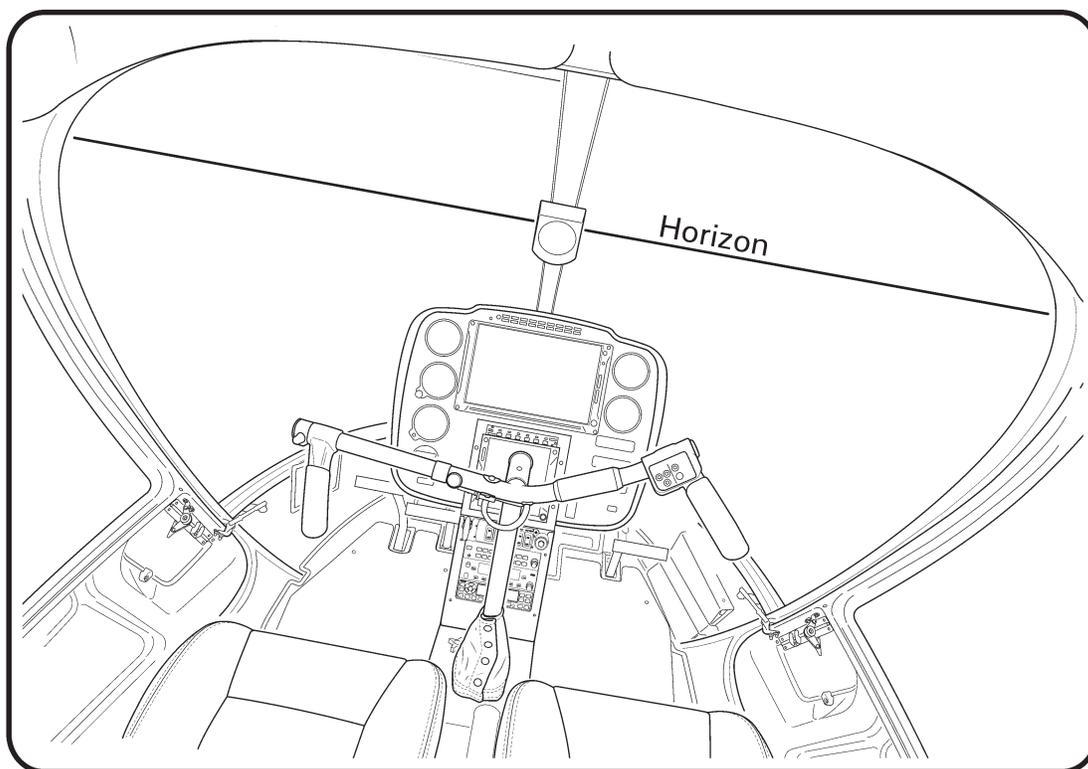

FIGURE 5 Camera view angle
- d. If horizon slants to the right (as shown in Figure 5), adjust angle by loosening two NAS1352-04-4 screws holding lens (see Figure 2) and rotate lens counterclockwise while facing lens; if horizon slants to the left, rotate lens clockwise. Tighten screws. Repeat steps b & c.